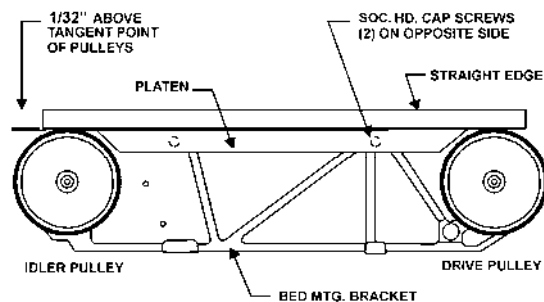

Figure 13
Refer to Figure 13:
2. Using a 6mm hex wrench, loosen the two socket head cap screws inside the belt arm and shift the platen as needed. The platen should be $1/32''$ to $1/16''$ above the tangent points of the pulleys and in contact with the belt at both ends. A straight edge can be used with the abrasive belt to align the platen, as shown in Figure 13.